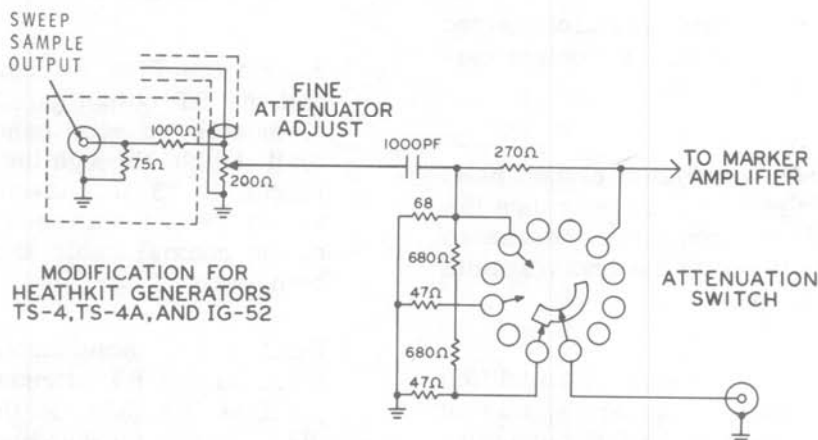

Figure 27
- ( ) Refer to Figure 27 to find where the lug for the "high side" of the attenuator control is located.
- ( ) Connect a 1000  $\Omega$  (brown-black-red) resistor from the "high side" lug of the attenuator control (S-1) to the center lug of the phono socket (NS).
- ( ) Connect a 75  $\Omega$  (violet-green-black) resistor from the center lug of the phono socket (S-2) to the ground lug of the phono socket (NS).